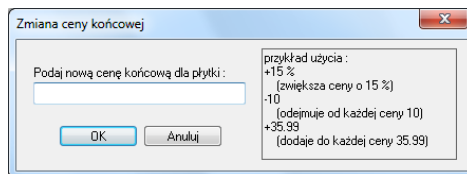

Fig. 216 – changing the final price of a selected tile
- **Change price** – allows to modify a price for any tile in the User Database or in a producer's one (available also under [F3] key); if the user does not select a particular tile, then the prices will be changed for all tiles in the selected collection; if an individual tile is selected, then only its price will be changed (Fig. 216).